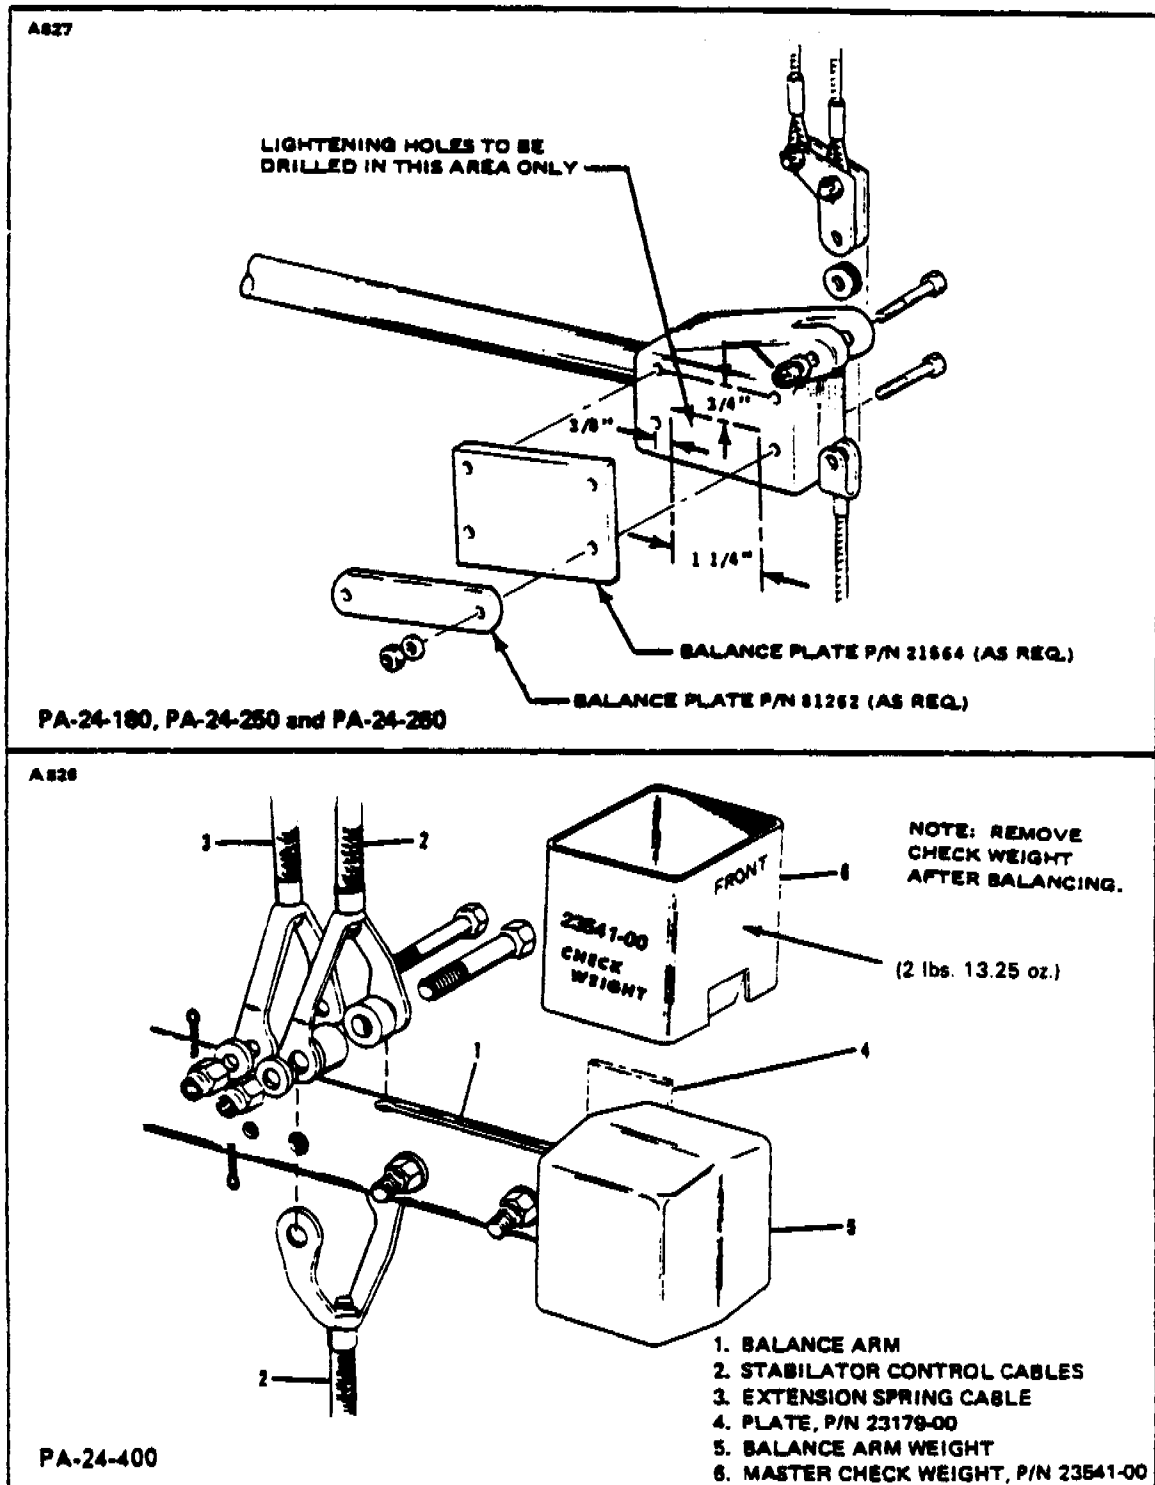

FIGURE 4-7a. STABILATOR BALANCE WEIGHT
4-50. Balancing Stabilator (Horizontal Tail Surface) (Refer to Figure 4-7a.) The importance of keeping the horizontal tail surface in proper balance cannot be over emphasized.
3. Add weight links P N 81262 and or 21564 as necessary or decrease weight by drilling balance weight in designated area. (Refer to Figure 4-7a.)
3. Place a master check weight, P N 23541 (2 lbs. 13.25 oz.) on top of the stabilator balance weight with the check weight tab facing aft. (Refer to Figure 4-7a.)
3. Add weight links, P N 81262 and or 21564 as necessary or decrease weight by drilling balance weight in the designated area. (Refer to Figure 4-7a.)